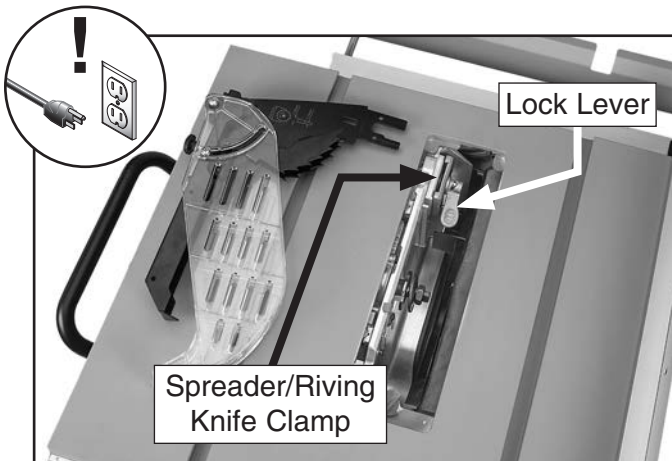

Figure 14. Location of spreader/riving knife clamp and lock lever.
- Move lock lever up to release spreader/riving knife clamp (see **Figure 14**).